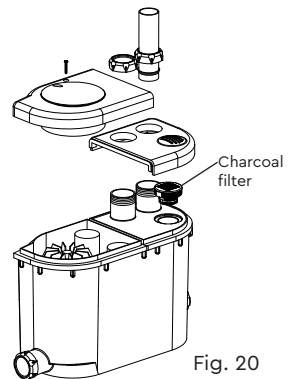

Fig. 20
- 6.19 Should the unit start to release odor's the charcoal filter (Part No. 28170) should be changed (Fig. 20).